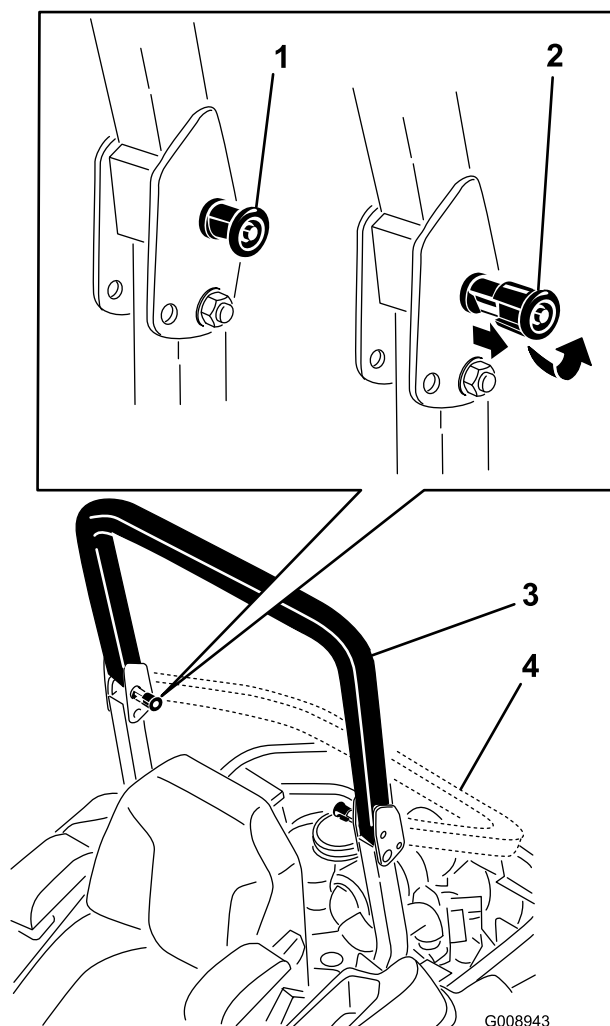

Figure 8
2. Pull both knobs out and rotate them 90 degrees so they are not engaged (Figure 8).
3. Lower the roll bar to the down position (Figure 8).
4. To raise the roll bar, raise the roll bar to the operate position and rotate the knobs so that they move partially into the grooves (Figure 8).
5. Raise the roll bar to the full upright position while pushing on the upper roll bar so that the pins snap into position when the holes align with the pins (Figure 8).